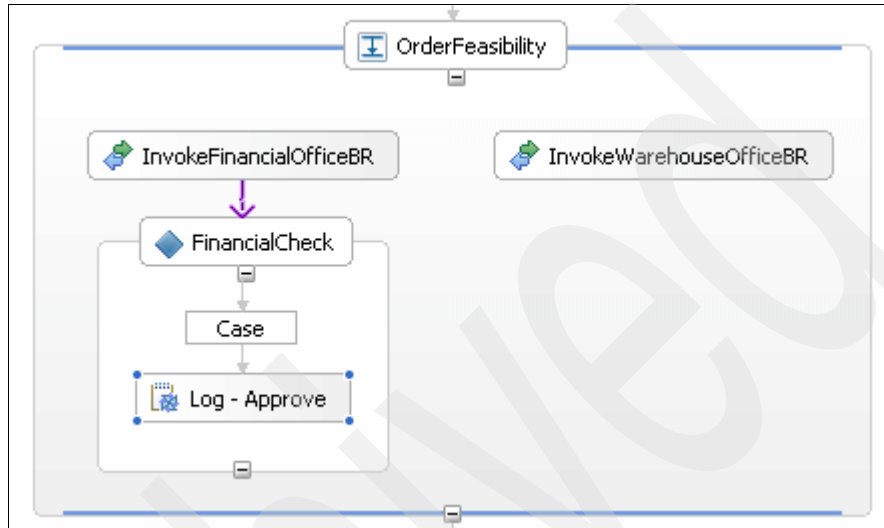

Figure 3-60 OrderFeasibility activity
- b. Make the Log - Approve snippet the first activity of the Case element as shown in Figure 3-60.